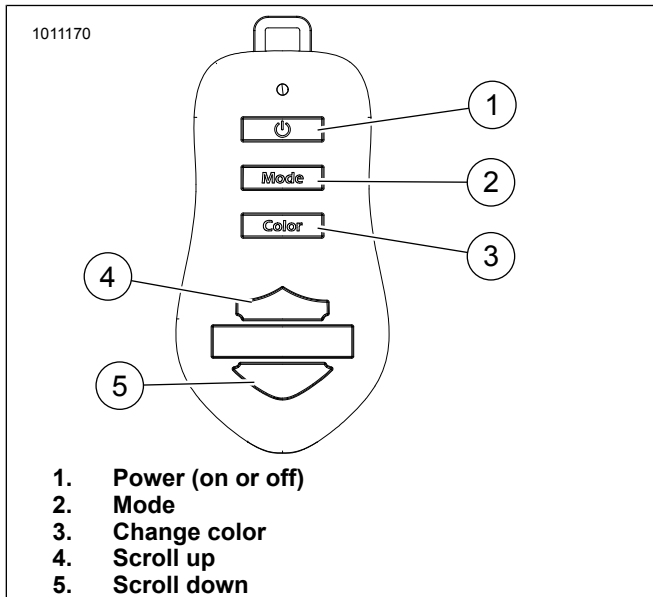

Figure 3. Fob
2. See Figure 3. Press the Power button (1) on the fob.
1. See Figure 3. Press the Mode button (2) to toggle through the three modes.
- b. Press the Scroll up button (4) to increase the speed gradually. Hold to quickly increase speed.
- c. Press the Scroll down button (5) to increase the speed gradually. Hold to quickly decrease speed.
1. See Figure 3. Press Change Color button (3) to scroll and change color zones.